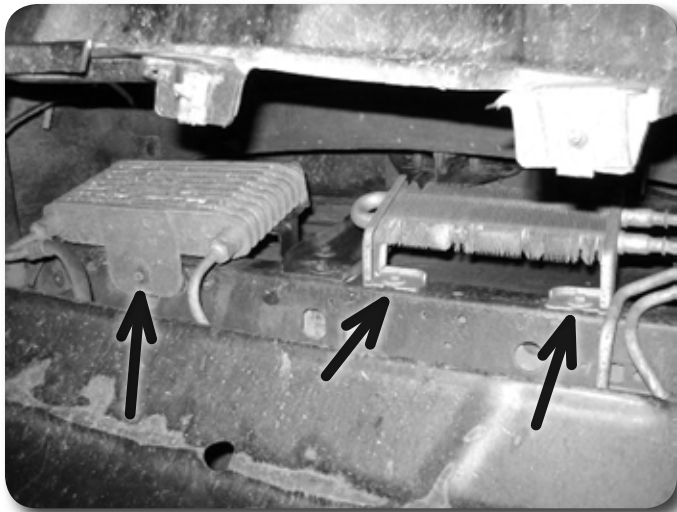

Figure 15
28. Remove the transmission and power steering oil coolers from the core support. **Figure 15** Allow them to hang out of the way so they are not damaged during lifting. Save hardware.